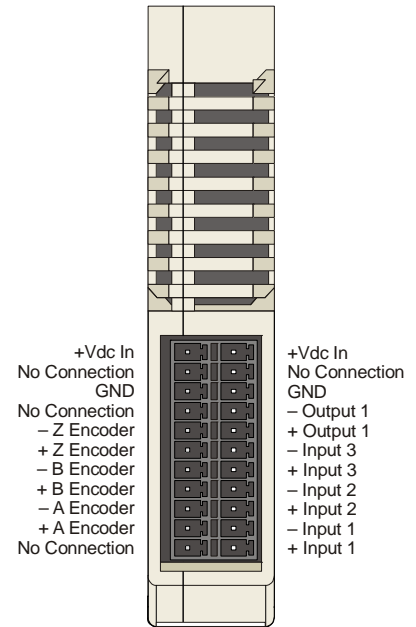

Figure 1.2 I/O Connector
As shown in figure 1.2, the I/O connector is located on the top of the module. All digital I/O connections are made at this connector as well as the power supply connections. The mating connector is not supplied with the ANG1(M) and is available from AMCI under the part number MS-2X11. It is also available from Phoenix Contact under their part number 173 88 98.